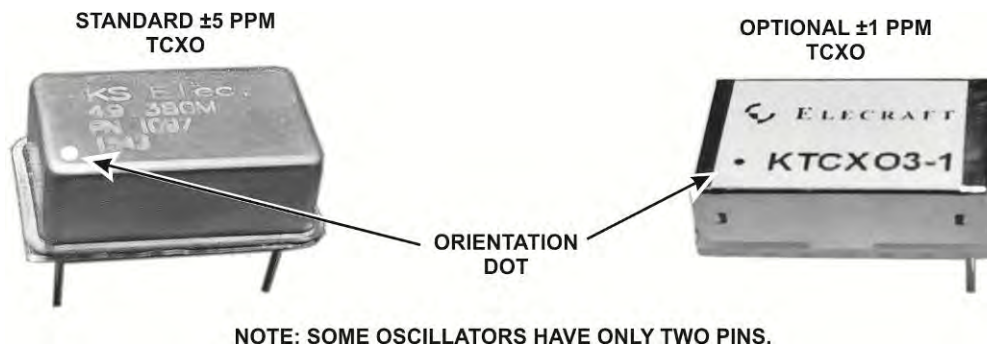

Figure 77. TCXO Modules.
- Locate the Temperature-Compensated Crystal Oscillator (TCXO) module. If you ordered the optional ± 1 ppm TCXO it will be supplied *instead* of the standard 5 ppm module (see Figure 77).